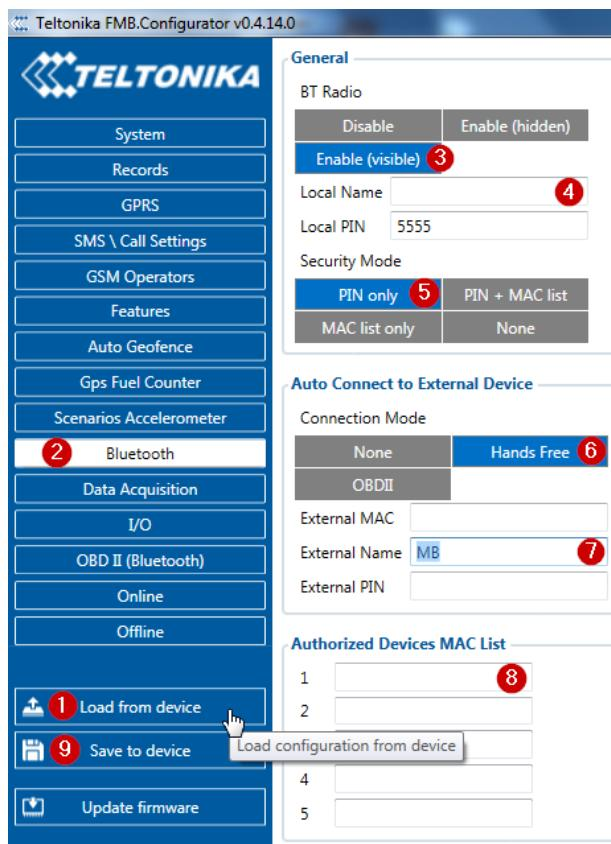

Figure 2.1 Load configuration from device;
3. After successful connection to device press “**Load from device**” button to load device current configuration visible at **Figure 2.1**